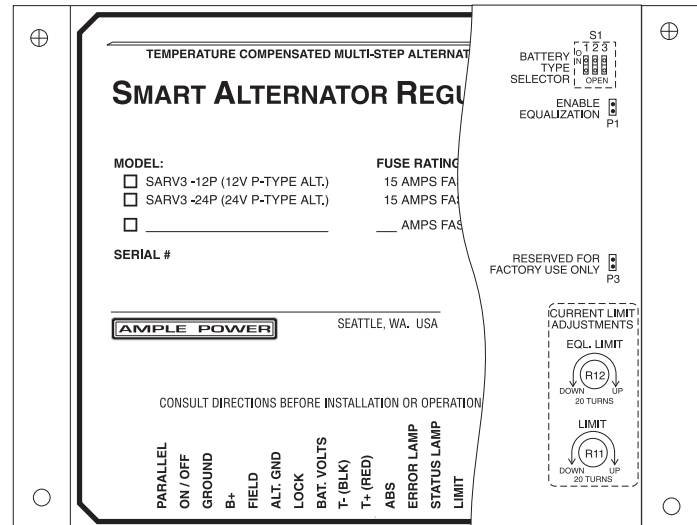

Figure 2. Internal Settings Locations
- **LIMIT, (optional)** ... an input that activates the regulator's duty-cycle current limiting when battery voltage is applied to this connection. This duty-cycle current limit is adjusted with potentiometer R11 (Refer to Figure 2). Refer to the Current Limiting section for the operating description.
- **EQL, (optional)** ... an input that activates either the regulator's equalization mode **or** a second duty-cycle current limit, depending on the internal jumper P1. This input is activated when battery voltage is applied to EQL. The duty-cycle current limit is adjusted with potentiometer R12 (Refer to Figure 2). Refer to the Equalization section for the operating description.
The voltage and the time of the absorption cycle are controlled by the internal dip-switch, S1. Refer to Figure 2 for the location of S1. Select a charge profile by setting the battery type switches on S1 according to the following table.
For normal limiting on a small engine, assert the LIMIT input. The EQL input can be connected to the same switch that enables another load on the engine. For example, a clutch driven pump may require a further reduction in current, so wire the EQL input to the switch that activates the clutch for the water pump. The potentiometer for LIMIT is R11. R12 sets the current limit for the EQL input. Refer to Figure 2 for R11 and R12 locations.
The EQL input is used for a second current limit whenever the input signal is activated. To enter the actual equalization mode, the two pins of P1 must be first shorted with a jumper terminal or a switch connected to the two pins, refer to Figure 2. This changes the mode of the EQL input signal to regulate at the equalization voltage set-points as well as current limit. Then the EQL input should be momentarily activated for at least two seconds and then released. A second momentary action will terminate the equalization process. Equalization will terminate automatically whenever the ending voltage or time is achieved.